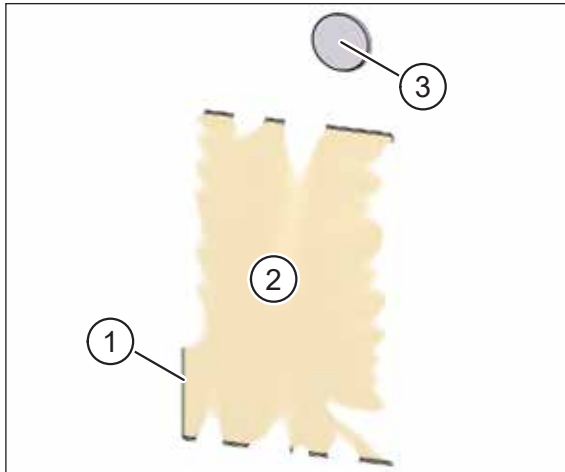

Fig. 68: Installation kit plastered on the inside
- ▶ Use a blade to score the plaster on the inside of the plastering trim (item 1 in Fig. 68).
- ▶ Carefully remove the plaster cover (item 2 Fig. 68) and the protective cover lying underneath.
- ▶ Use a blade to score the plaster on the inside of the supply air and extract air openings (item 3 in Fig. 68) and remove the adhesive tape with the plaster.